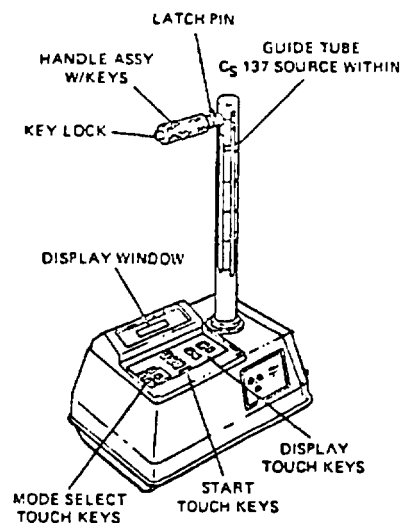

Figure 4-1. Model MC-1 Nuclear Method Density and Soil Tester
b. Make sure the testers handle is locked in the "SAFE" position, and that the shutter is closed. (See Fig. 4-1).
g. Return the tester to its upright position. (See Fig. 4-1).